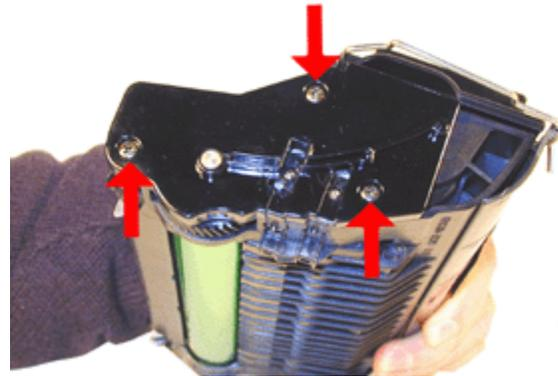

FIGURE 10
- Remove the three screws on the right side end cap. Remove the end cap. See Figure 10